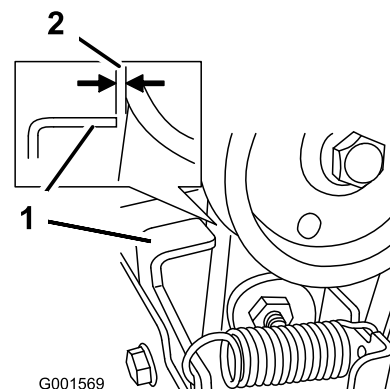

Figure 46
3. With the auger/impeller lever disengaged, ensure that the gap between the auger clutch assembly and the tab is 1.5 mm (1/16 inch) as shown in Figure 46.